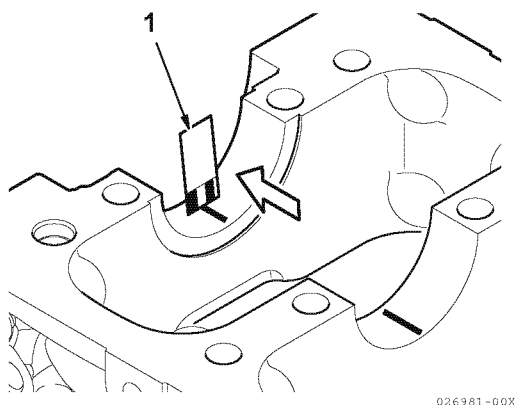

Figure 6-56
9. Compare the width of the flattened PLASTIGAGE (**Figure 6-56, (1)**) to the graduation marks on the package. The mark that most closely matches the width of the flattened PLASTIGAGE will indicate the bearing oil clearance. Record the measurement. *See Crankshaft on page 6-6 for clearance specifications.*